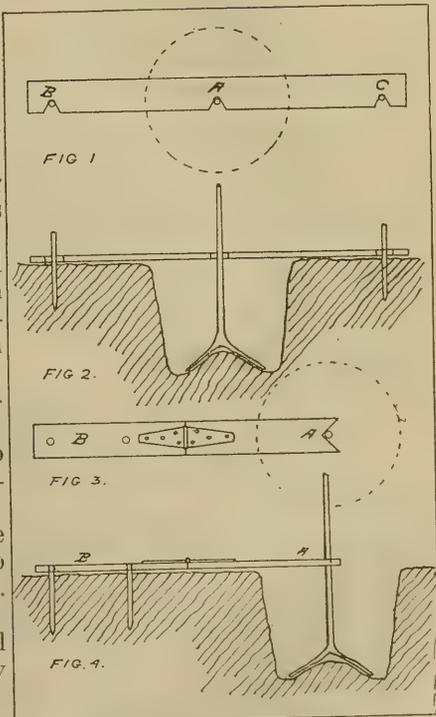

Fig. 77.—Shows two planting boards.
7. **Digging the hole.** Fig. 77.